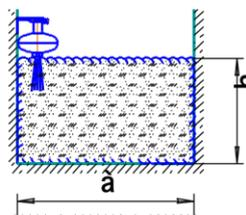

Figure 5
6.6 The configuration of the powder dispersion and the representation of the extinguishing surfaces for ceiling mounting are shown in Figure 4 and Tables 2 and 3, and for wall mounting in Figure 5 and Table 4.